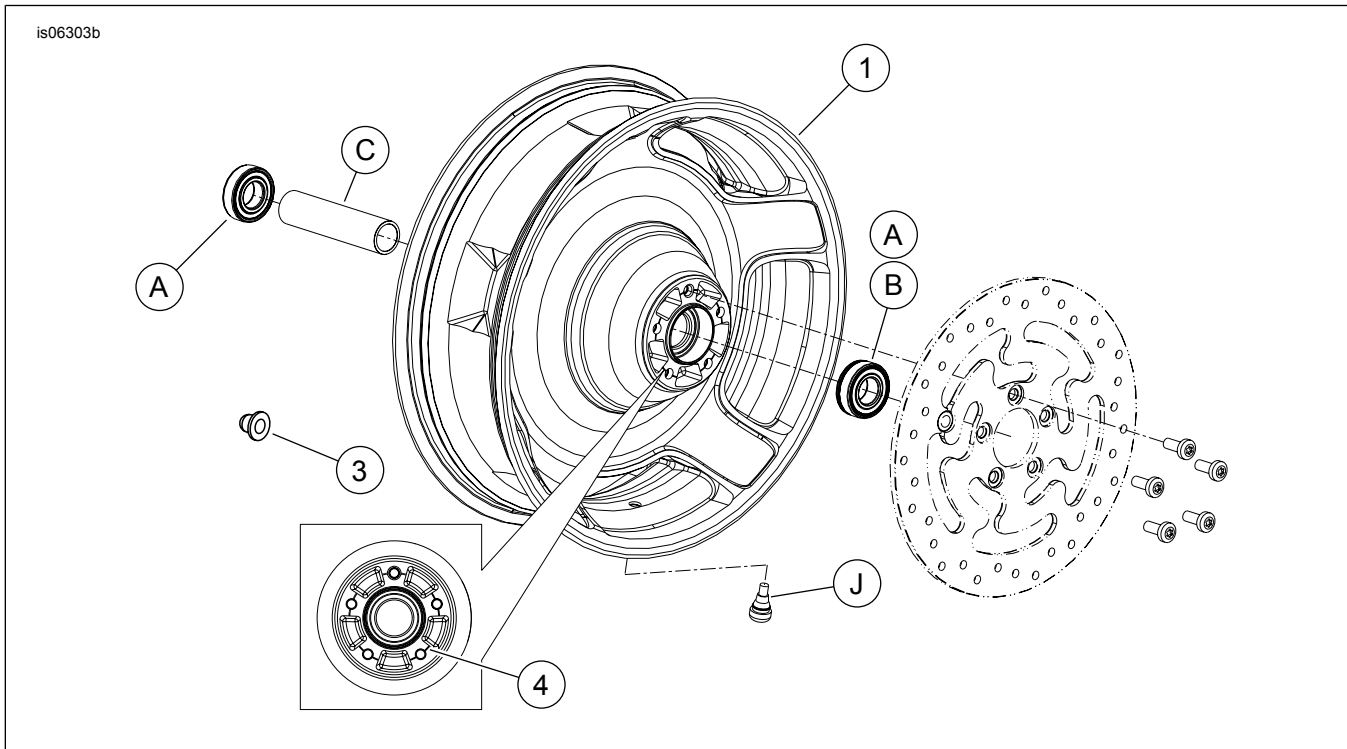

Figure 1. Service Parts: Rear Airstrike Wheel
See Figure 1 and Service Parts Tables.
2. See Figure 1. Install valve stem assembly (J) on wheel. Refer to TIRES in service manual.